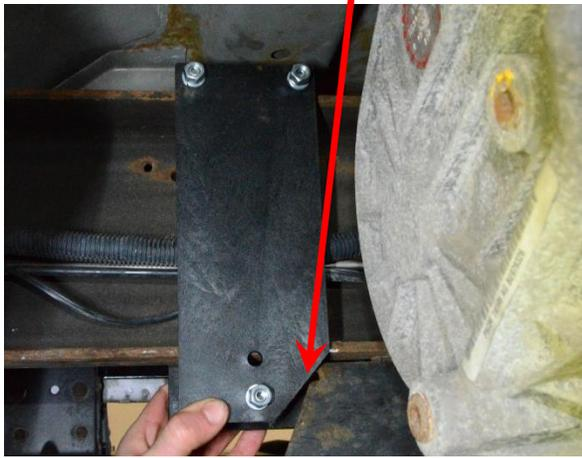
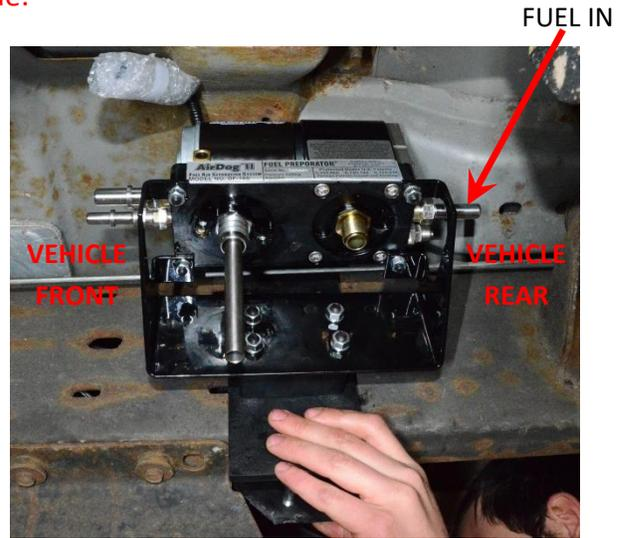

FIGURE 9
FIGURE 10
- 4-6. Clamp the frame between the AirDog® bracket assembly and the backing plate (figures 9 and 10) using the 3/8" bolts, lock washers, and nuts included in the kit. Properly torque all fasteners! **BE SURE** to mount the AirDog®II with the "FUEL IN" port toward the rear of the vehicle (Figure 10).